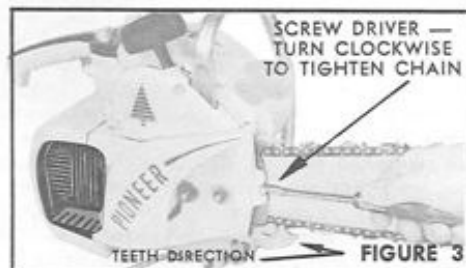
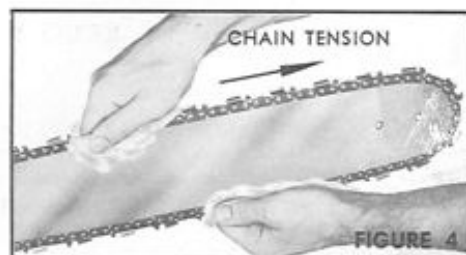

FIGURE 3
FIGURE 4
1. Install your chain properly and bear in mind that the sharp cutting edge of the chain moves forward from the motor around the nose of the bar. Adjust the chain tension as noted in Figure 4.
6. Tighten your chain, using the adjusting screw. (Figure 3). Grip the chain and assure its free movement around the bar. **CAUTION** — Use gloves or a cloth to protect your hands as illustrated in Figure 4.